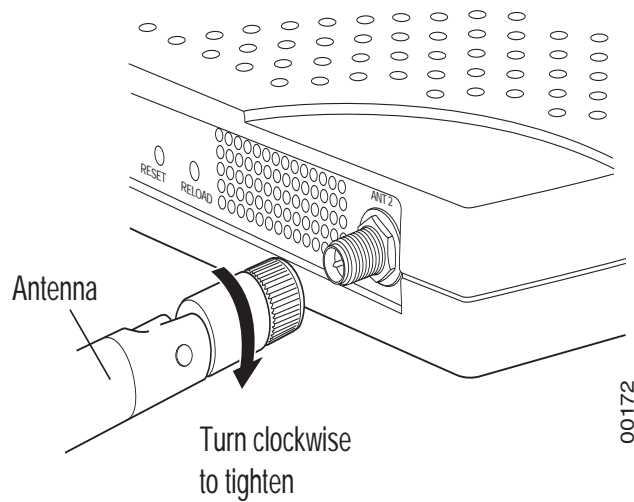

Figure 33: AP150 Antenna Connection
If the AP150 does not have external antennas, attach the antennas to the connectors on the AP150 (see Figure 33). Rotate the knurled ring at the base of the antenna clockwise to attach the antenna. The ring should be finger-tight.
2. For each antenna, loosen the knurled ring at the base of the antenna (see Figure 33), point the antenna straight up, then retighten the ring.
7. For external antennas, loosen the knurled ring at the base of each antenna (see Figure 33), point the antenna straight up, then retighten the ring.
9. For external antennas, loosen the knurled ring at the base of each antenna (see Figure 33), point the antenna straight up, then retighten the ring.
10. For each antenna, loosen the knurled ring at the base of the antenna (see Figure 33), point the antenna straight down, then retighten the ring.